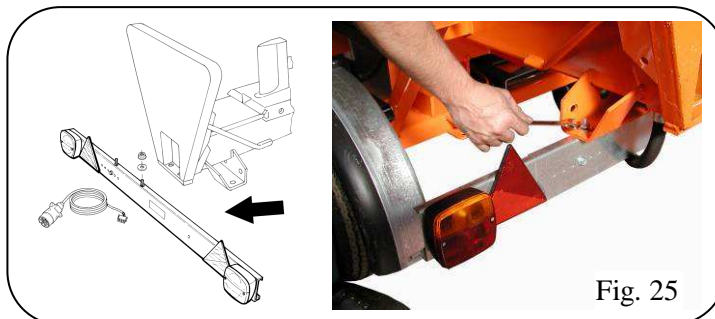

Fig. 25
- Assemble the rear lights and fasten them with the special screws (Fig. 25). Remount also the mudguards (Fig. 12).